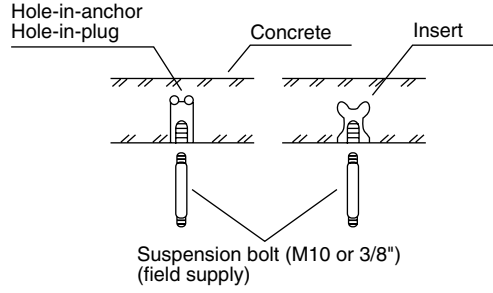
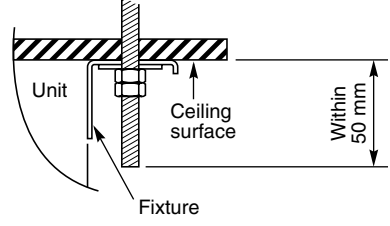

Fig. 3-38
Fig. 3-40
- (2) Drill holes at the 4 points indicated on the full-scale diagram.
- (3) Depending on the ceiling type:
- a) Insert suspension bolts (Fig. 3-38).
- (4) Screw in the suspension bolts, allowing them to protrude from the ceiling (Figs. 3-38 and 3-39). The distance of each exposed bolt must be of equal length within 50 mm. (Fig. 3-40)